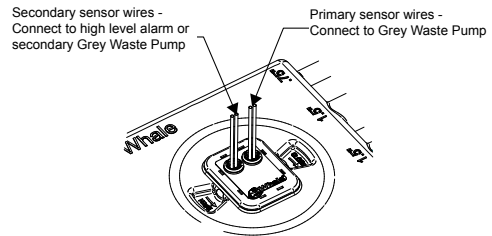

Figure 9B Double Sensor Models
- Fig. 9B Double Sensor Version